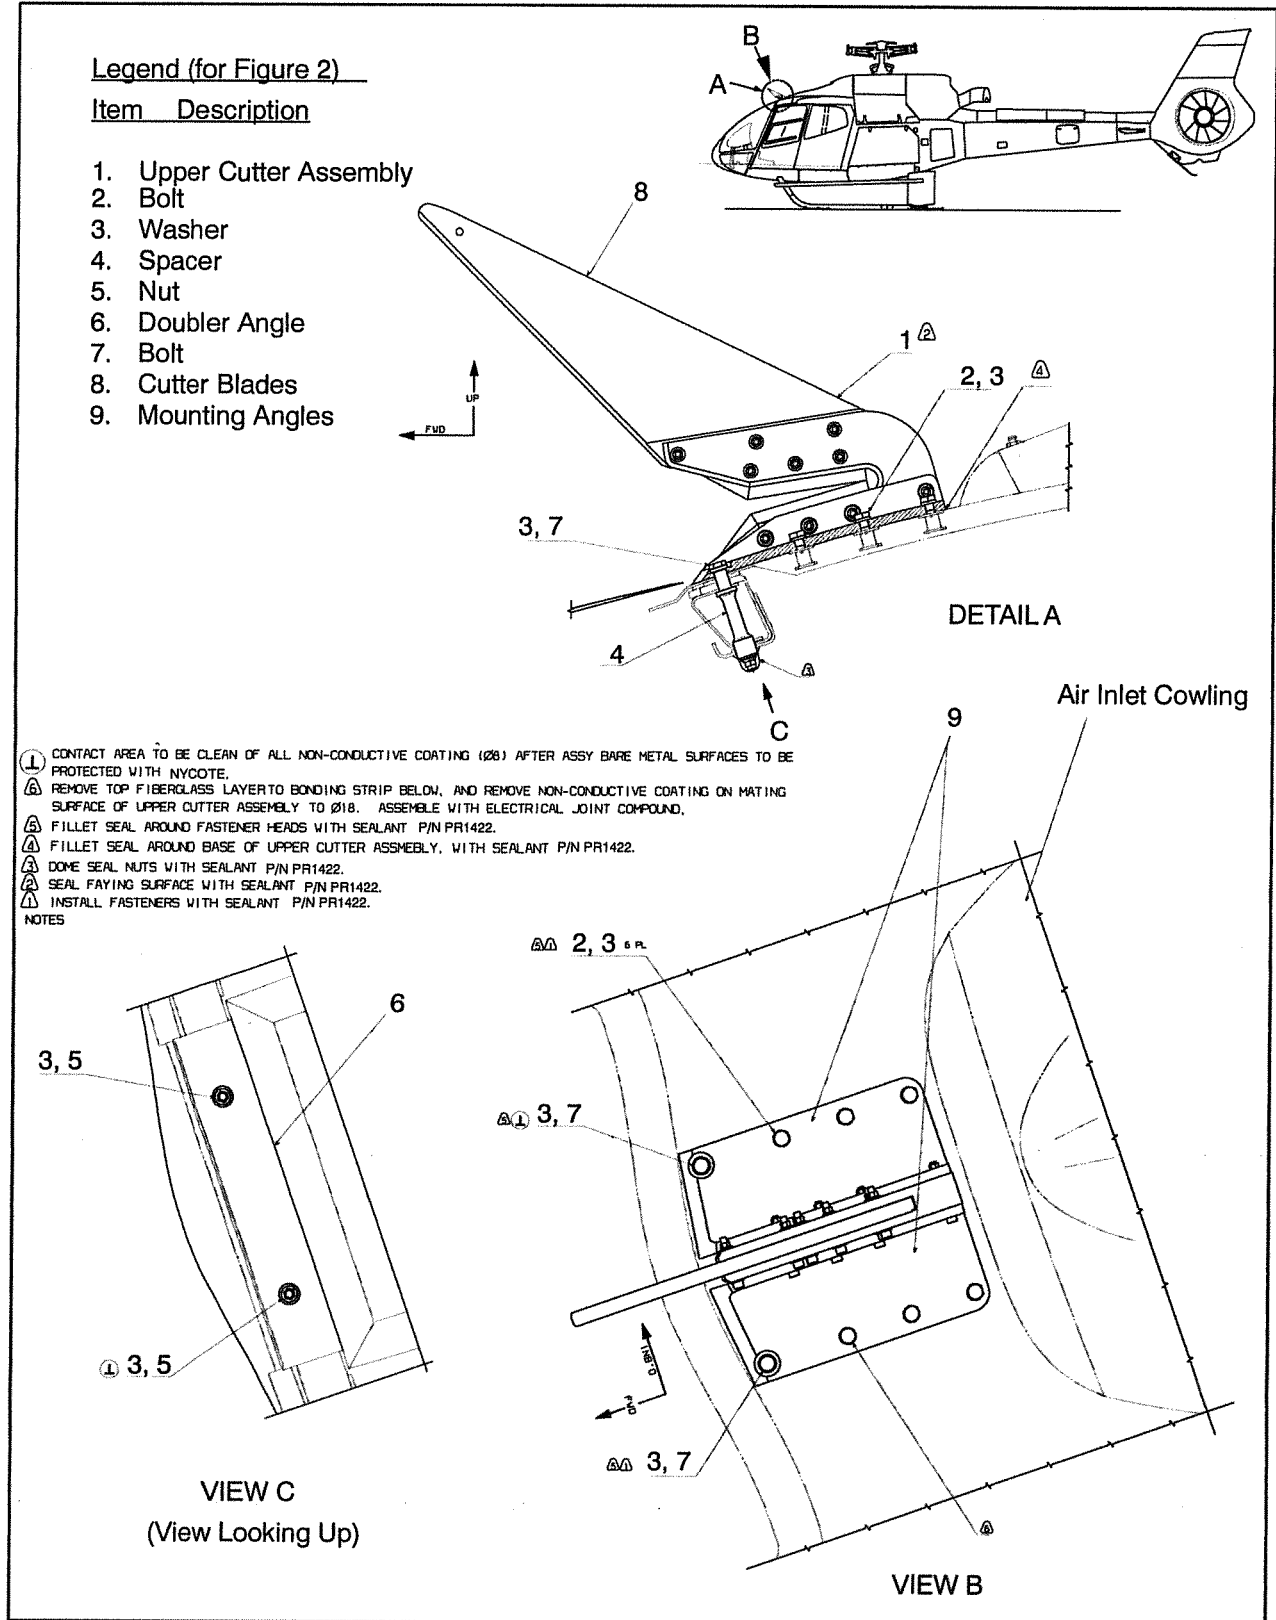

Figure 2 Upper Cutter Detachable Provisions
Refer to Figures 2, Upper Cutter Detachable Provisions, and Figure 3, Lower Cutter Detachable Provisions, for component removal and replacement.
- 1) Upper Cutter (Refer to Figure 2)
- a) Remove bolts (2) (6 places), and washers (3) (6 places) from the cabin roof.
- b) Remove FWD bolts (7) (2 places) and washers (3) (2 places) from the cabin roof. Remove nuts (5) (2 places), washers (3) (2 places) and spacers (4) (2 places) from between the roof and the carbon beam.
- c) Carefully remove the sealing compound and the upper cutter assembly (1).
- b) Secure upper cutter assembly (1) into place using bolts (2) (6 places), and washers (3) (6 places) coated with sealant (P/N PR1422).
- c) Place spacer (4) (2 places) into carbon beam.
- d) Secure LHS using bolt (7) (1 place), washer (3) (2 places), and nut (5) (1 place). Dome seal nuts with sealant (P/N PR1422).
- e) Secure RHS using bolt (7) (1 place), washer (3) (2 places), and nut (5) (1 place). Dome seal nuts with sealant (P/N PR1244).